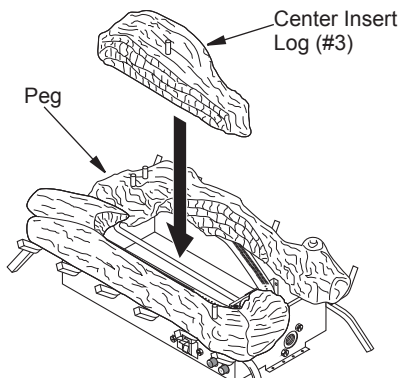

Figure 19 - Installing Center Insert Log (#3)
2. Place center insert log (#3) as illustrated in Figure 19. Log should rest on burner and burner bracket. Do not block burner ports